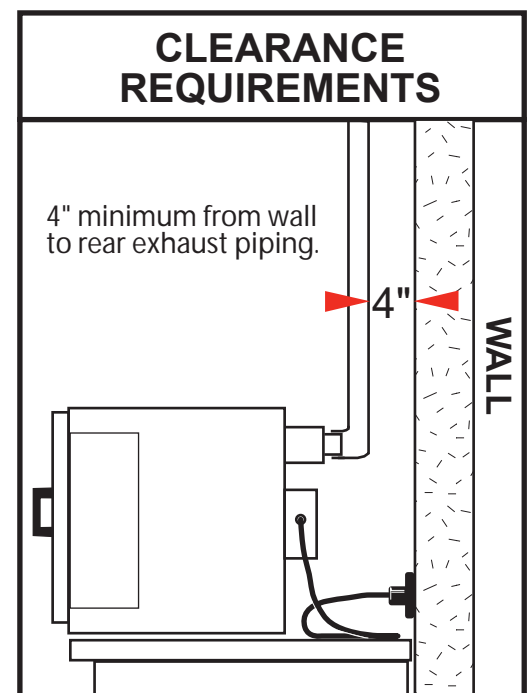

FIG. 14
■ A minimum of 4 inches of clearance should be maintained between the connected pipe and any building surface or material (FIG. 14).